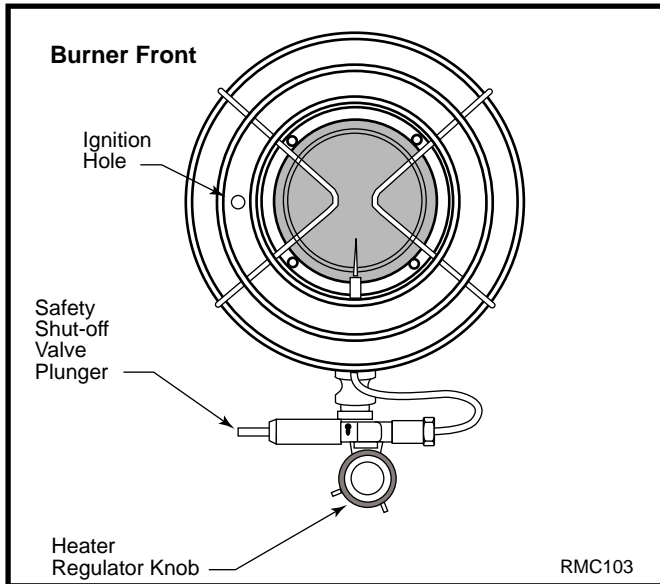

Fig. 3 Burner front.
4. Wait five (5) minutes to clear out any air. Then smell for gas, including near the floor. If you smell gas, STOP! Follow "B" in the safety information on the side of heater. If you do not smell gas, go to the next step.
5. Turn heater regulator knob counterclockwise  to "Hi" position. Press in safety shut-off valve plunger for five (5) seconds. (Fig. 3)
1. Turn heater regulator knob counterclockwise to the "Hi" position. (Fig. 3)
3. Push in the safety shut-off valve plunger (Fig. 3)